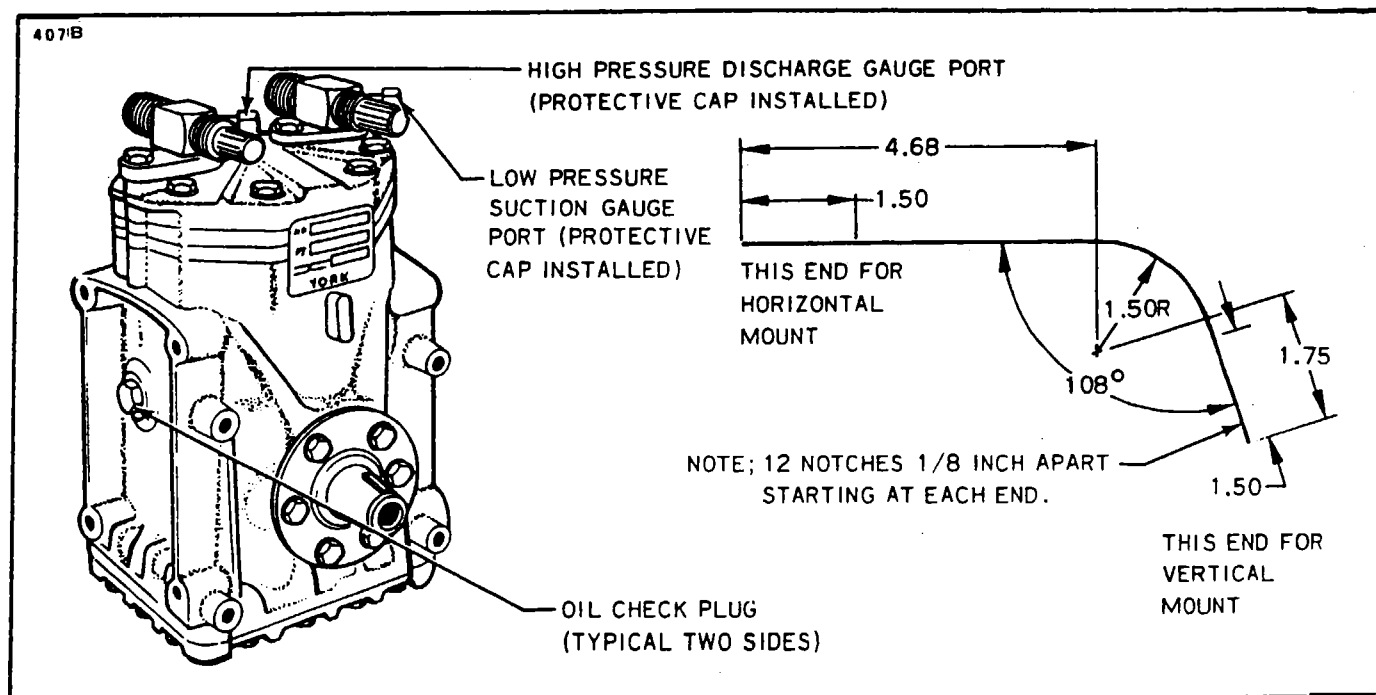

Figure 13-28. Compressor And Fabricated Oil Dipstick
- g. Connect the blue, low pressure, charging line to the low pressure gauge port (See Figure 13-28.)
- a. It will be necessary to fabricate an oil dipstick. (Refer to Figure 13-28.)